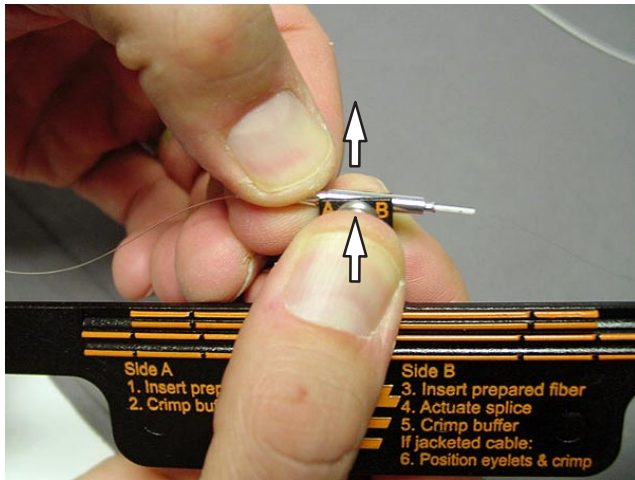

Figure 51
13. Grasp the button between the thumb and forefinger and squeeze to release the splice from the tool. See Figure 51.